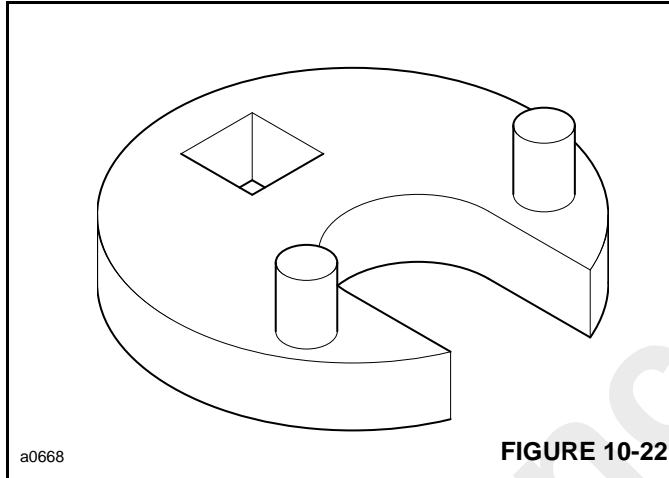

FIGURE 10-22
3. Use a spanner wrench like the one shown in Figure 10-22 and loosen the cylinder head (8, Figure 10-23).
4. Pull the piston and rod (3 and 13) straight out of cylinder tube (1). If the cylinder rod and piston are hard to remove, install the cylinder head back into the cylinder tube and apply shop air to the base port to push the piston out to cylinder head.